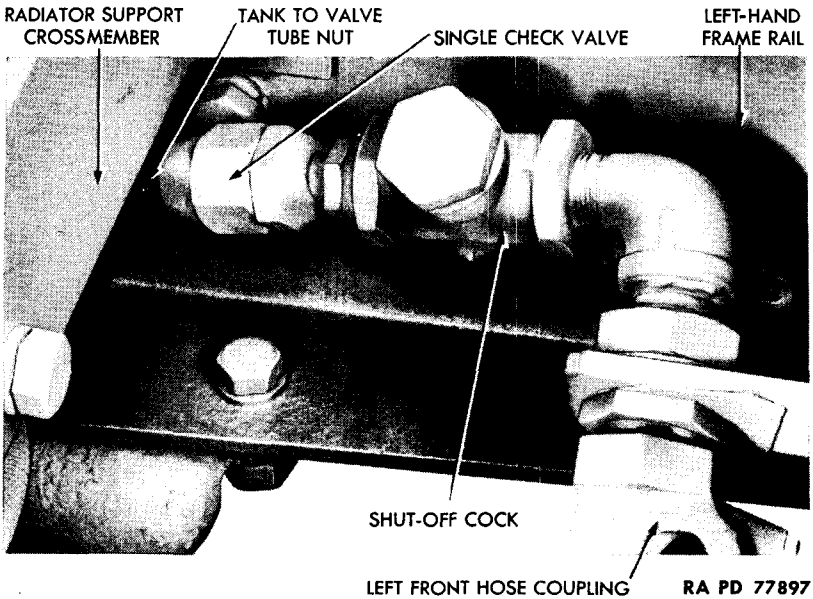

Figure 69 – Single Check Valve and Attaching Parts
(1) **DESCRIPTION** (fig. 69). A single check valve, attached to air line at shut-off cock behind front left hose coupling, is a one-way ball-type check valve. Its purpose is to prevent leakage of air system in case of coupling breakage while the truck is being towed.
b. **Removal** (fig. 69). Disconnect air tube from elbow at rear end of valve, and unscrew valve from fitting on shut-off cock.
c. **Installation** (fig. 69). Screw valve to connection on shut-off cock, and connect air line to elbow at rear of valve. Start engine, and build up pressure to 105 pounds. Inspect valve for leaks.